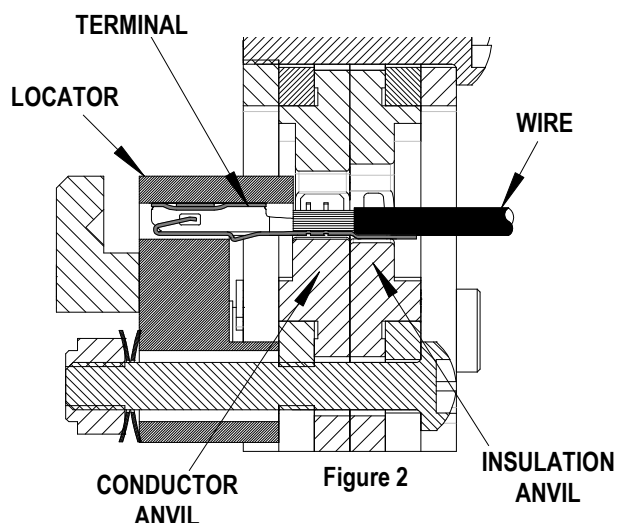

Figure 2
4. Place a pre-stripped wire into the terminal (see Scope chart for recommended strip lengths). Position the wire so the conductor lies in the conductor grip. See Figure 2.
If the tool ever becomes jammed in a partially closed position, **DO NOT force the handles open or closed**. The tool will open by lifting the ratchet release lever. See Figure 2.